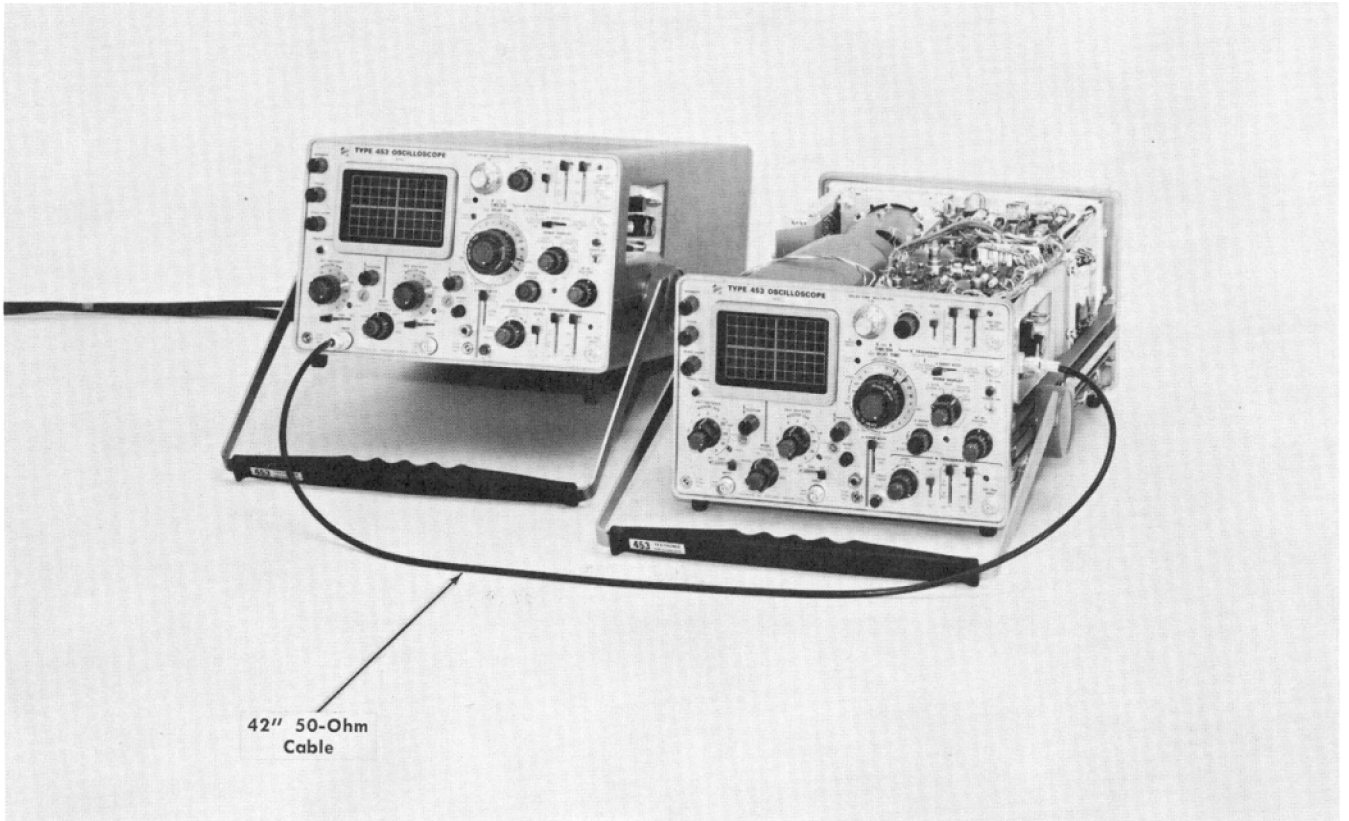

Fig. 6-62. Initial test equipment setup for step 63.
- Test equipment setup is shown in Fig. 6-62.